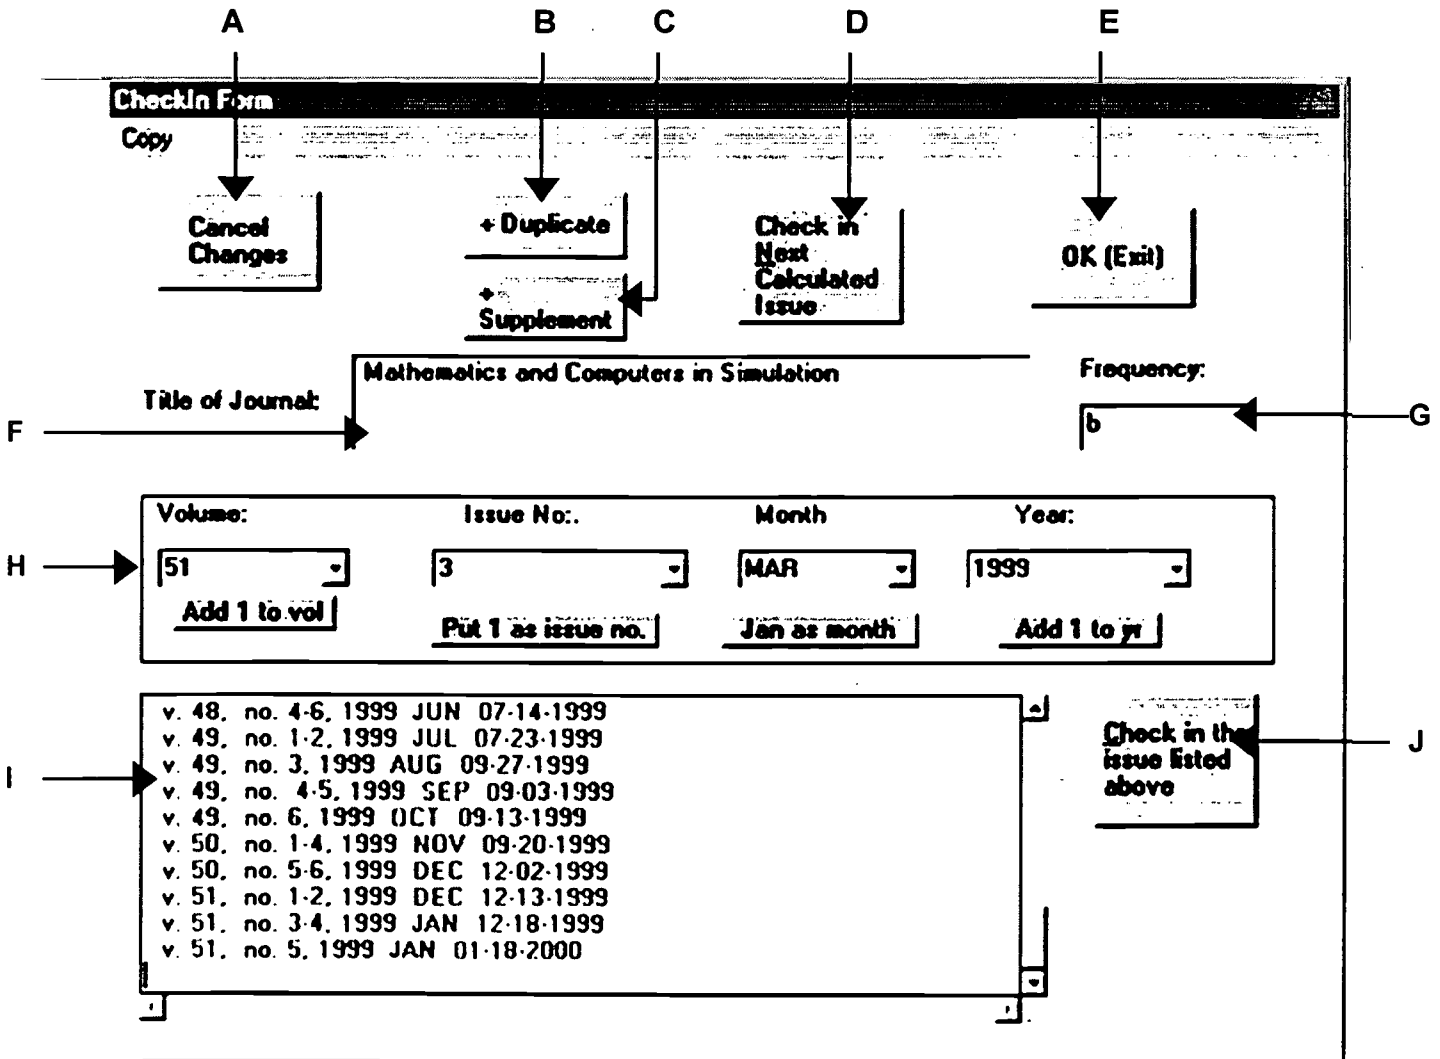

Fig. 5
Checking in new issues of a title is simple using the check-in Form (Fig. 5). This form also allows adding supplements, and duplicates to a serial title record.
6. If a mistake has been found in the recently checked in issue, simply click the **Cancel Changes (5-A)** button. This will exit the check-in **Form** (Fig. 5) without saving any of the changes made in the current session.
7. To save the changes and exit the check-in **Form** (Fig. 5), simply click on the **Exit (5-E)** button.